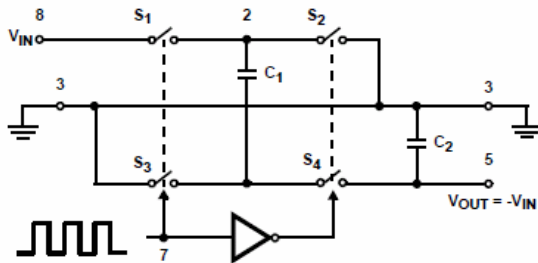
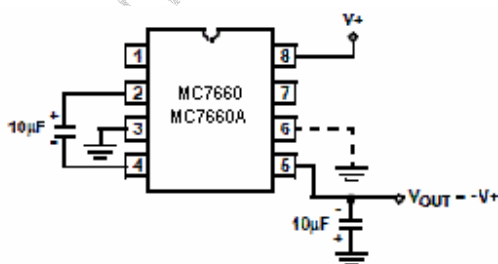

FIGURE 12. IDEALIZED NEGATIVE VOLTAGE CONVERTER
FIGURE 13A. CONFIGURATION
The MC7660 and MC7660A contain all the necessary circuitry to complete a negative voltage converter, with the exception of 2 external capacitors which may be inexpensive 10µF polarized electrolytic types. The mode of operation of the device may be best understood by considering Figure 12, which shows an idealized negative voltage converter. Capacitor C_1 is charged to a voltage, $V+$, for the half cycle when switches S_1 and S_3 are closed. (Note: Switches S_2 and S_4 are open during this half cycle.) During the second half cycle of operation, switches S_2 and S_4 are closed, with S_1 and S_3 open, thereby shifting capacitor C_1 negatively by $V+$ volts. Charge is then transferred from C_1 to C_2 such that the voltage on C_2 is exactly $V+$, assuming ideal switches and no load on C_2 . The MC7660 approaches this ideal situation more closely than existing non-mechanical circuits. In the MC7660 and MC7660A, the 4 switches of Figure 12 are MOS power switches; S_1 is a P-Channel device and S_2 , S_3 and S_4 are N-Channel devices. The main difficulty with this approach is that in integrating the switches, the substrates of S_3 and S_4 must always remain reverse biased with respect to their sources, but not so much as to degrade their "ON" resistances. In addition, at circuit start-up, and under output short circuit conditions ($V_{OUT} = V+$), the output voltage must be sensed and the substrate bias adjusted accordingly. Failure to accomplish this would result in high power losses and probable device latchup. This problem is eliminated in the MC7660 and MC7660A by a logic network which senses the output voltage (V_{OUT}) together with the level translators, and switches the substrates of S_3 and S_4 to the correct level to maintain necessary reverse bias.
where V1 and V2 are the voltages on C1 during the pump and transfer cycles. If the impedances of C1 and C2 are relatively high at the pump frequency (refer to Figure 12) compared to the value of RL, there will be a substantial difference in the voltages V1 and V2. Therefore it is not only desirable to make C2 as large as possible to eliminate output voltage ripple, but also to employ a correspondingly large value for C1 in order to achieve maximum efficiency of operation.
The majority of applications will undoubtedly utilize the MC7660 and MC7660A for generation of negative supply voltages. Figure 13 shows typical connections to provide a negative supply negative (GND) for supply voltages below 3.5V. The output characteristics of the circuit in Figure 13A can be approximated by an ideal voltage source in series with a resistance as shown in Figure 13B. The voltage source has a value of -V+. The output impedance (RO) is a function of the ON resistance of the internal MOS switches (shown in Figure 12), the switching frequency, the value of C1 and C2, and the ESR (equivalent series resistance) of C1 and C2. A good first order approximation for RO is: